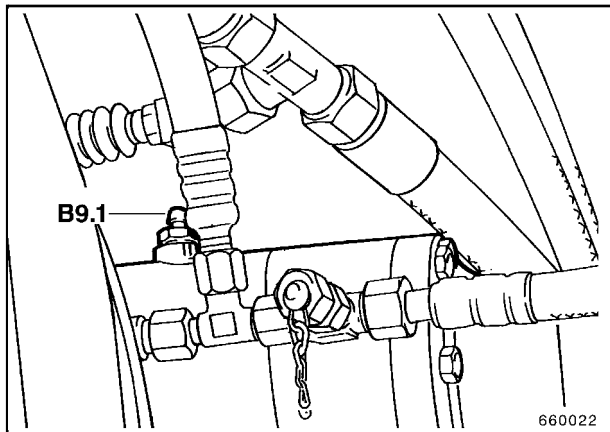

Fig. 12
- Right vent valve (B9, Part 1, Fig. 12) at rear axle.